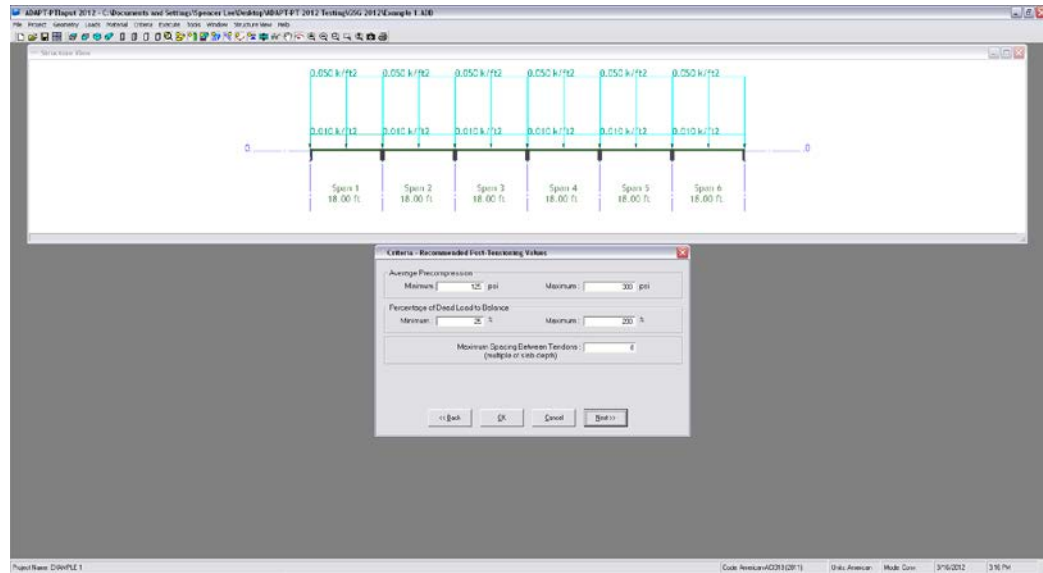

FIGURE 2.1-15
2.1.5.2 Enter The Recommended Post-Tensioning Values (Fig. 2.1-15)